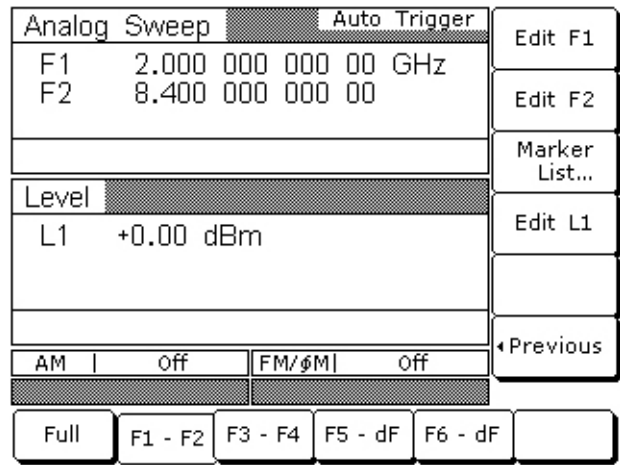

Figure 5-9. Frequency Control Menu
- c. With the Analog Sweep menu displayed, press Frequency Control >. The Sweep Frequency Control menu (Figure 5-9) is displayed.